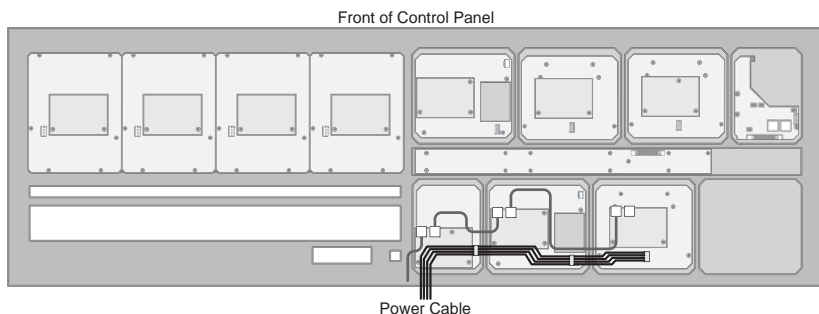

Figure 7 Module Power Cable — Vision 2X
2. Connect and secure one of the **Module Control Link Cables** to the **NEXT** port on the first module ①.
3. Connect and secure the other end of the **Module Control Link Cable** to the **PREV** port on the second module ②.
4. Connect and secure the other Module Control Link **Cable** to the **NEXT** port on the second module ②.
5. Connect and secure the other end of the Module Control Link **Cable** to the **PREV** port on the third module ③.
6. Connect and secure the existing **Module Power Cable** to the **Power** connector on the first module (**Figure 7**). This 4-conductor ribbon cable delivers power to all the modules in the row.